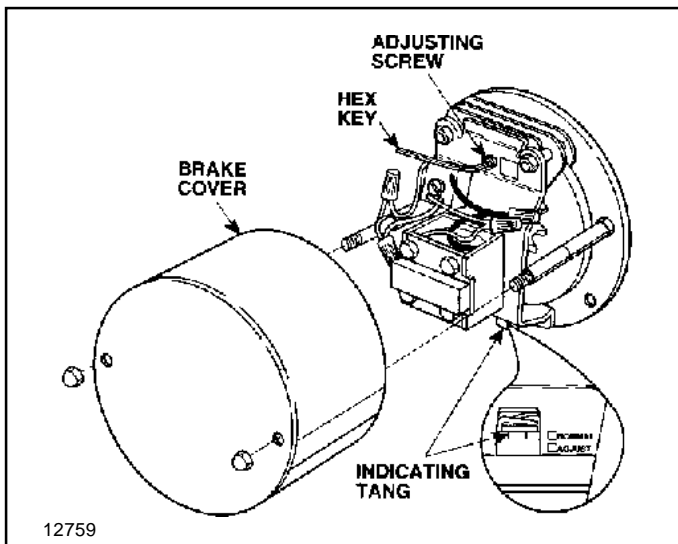
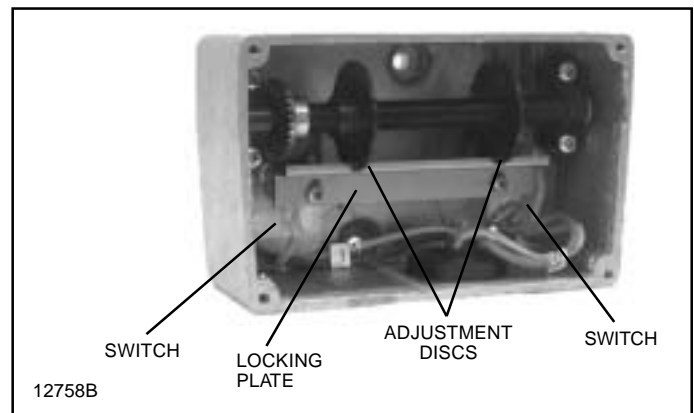

Figure 7-1. Motor Brake - Early Version.
Figure 7-2. Screw-Type Limit Switch Adjustment.
a. Examine position of indicating tang located below the solenoid coil (Figure 7-1 or 7-1A).
c. On the early version of the brake (Figure 7-1), if the tang is below the midway position of the two adjustment points shown on the brake, the brake should be adjusted to bring the tang back up alongside the NORMAL position on the brake.
d. Remove the hex key (1/8" size) from the holster on the cover mounting stud and carefully turn the ADJUSTING SCREW (located above the solenoid coil) clockwise. The indicating tang will move a large distance for a small turn of the adjusting screw, therefore turn the screw no more than one quarter turn before checking adjustment.
**7-4. SCREW-TYPE LIMIT SWITCH.** This limit switch has a rotary screw driven by a gear reduction which is coupled to the end of the drum shaft. Adjustment discs operate the contacts of separate switches; one for the hoisting circuit and one for the lowering circuit. The switch assembly must be wired in accordance with the appropriate wiring diagram, which is packaged with hoist. Adjustment of this screw-type limit switch is accomplished as follows: (Refer to Figure 7-2).